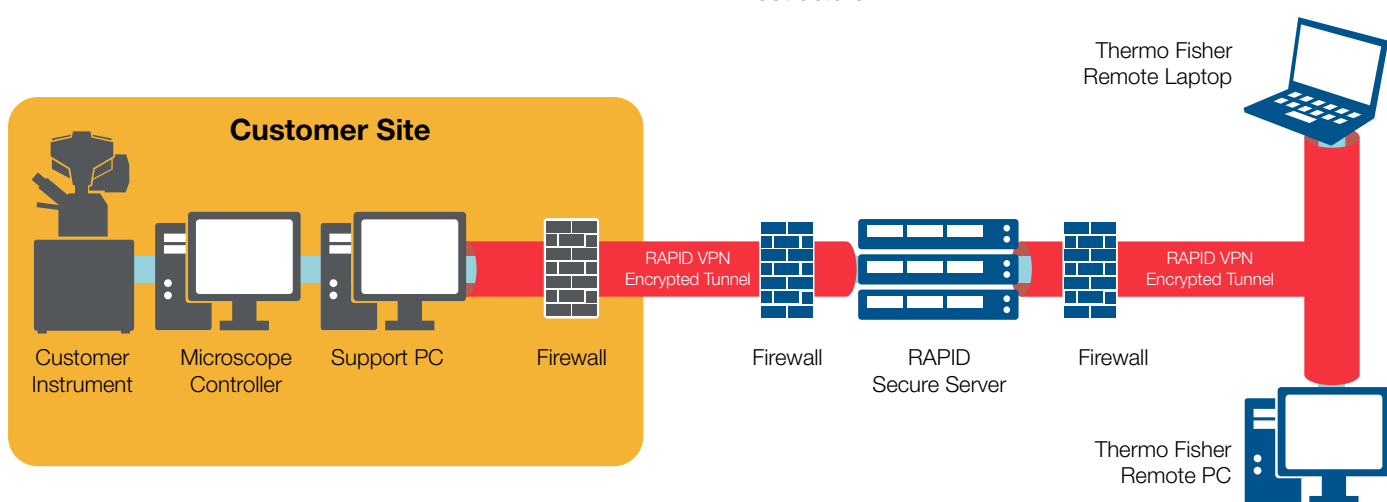

Figure 1. RAPID infrastructure.
Our network configuration makes it easy to connect with Thermo Fisher through the local corporate or institutional network (see Figure 1). RAPID is divided into two layers:
- The connectivity layer (red tube in Figure 1) for connection between instrument and engineer (by infrastructure-related security measures like demilitarized zones—DMZ and hardening). All RAPID support sessions are set up using OpenVPN, a secure communication protocol that uses TLS encryption to prevent unauthorized connections and provide confidentiality between the Customer Instrument and RAPID Secure Server.
- The application layer (blue tube in Figure 1) for taking over the instrument screen (by requesting user credentials to ensure access control to all RAPID support sessions). The RAPID Connection Wizard, with integrated UltraVNC or TeamViewer screen sharing application, is part of the application layer.